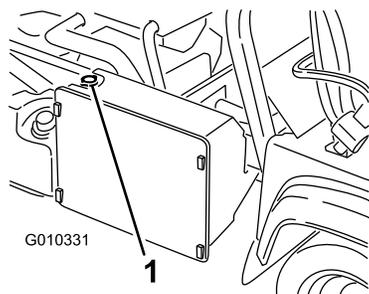

Figure 54
3. Remove the radiator cap (Figure 54).
7. Top off the radiator and install the cap (Figure 54).